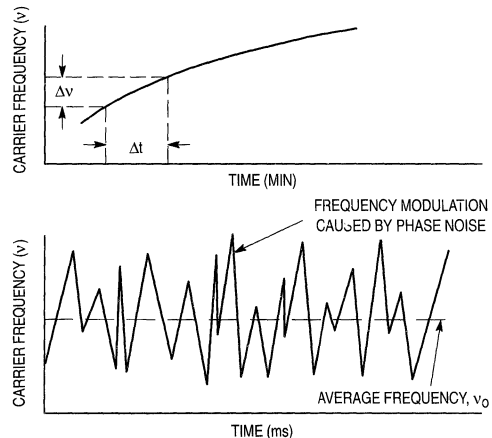

Figure 2. Short-term frequency stability can be far worse (bottom) than the long-term average of a PLL system (top).
However, an active RC notch filter3 (Figure 2) gives much more attenuation at the first sideband (5kHz) and is more flexible in some applications. Its gain is
**Figure 2.** Many filter configurations can be used to suppress sidebands. The simplest is a low-pass RC circuit (a). Somewhat more flexible is an active RC notch filter (b). But of all filters, a second-order active low-pass filter (c) is most versatile, since two of its parameters are independently adjustable.
Short-term (or “instantaneously” sampled) frequency stability, in the millisecond range, is particularly important for accuracy in position-finding applications, as in LORAN navigation and various radar and sonar Doppler systems. Even though frequency drift over a short time generally is less than the average long-term frequency drift, instantaneously measured samples show much wider variations in the frequency swings caused by phase noise in the signal source (Figure 2).